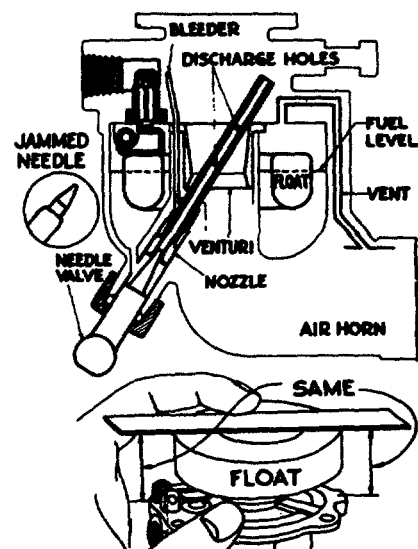

Figure 16.
To set the level on the carburetor, invert the upper body as shown. See Fig. 16. The float and the body cover should be parallel. If not, bend the tang on the float to obtain this position. The actual distance on the small carburetors is 5/16 of an inch between the float and the gasket. On the larger models it is 3/16 of an inch. It is seldom necessary to measure this distance. The float level is not as critical as on some carburetors. Remember, however, that there should be one gasket between the float valve seat and the carburetor. No gasket or two gaskets will change the float level.
Here is shown the position of the nozzle and the fuel level. See Fig. 16. The fuel in the bowl seeks its own level, which is well below the discharge holes. Notice that the discharge holes are in the venturi, the place of greatest air velocity. As the piston in the cylinder moves down with the intake valve open, it creates a low pressure area that extends down into the carburetor throat and venturi. Two things start to happen.
The ideal combustion mixture is about 14 or 15 pounds of air, in weight, to one (1) pound of gasoline. Remember that an engine operating under heavy load requires a richer mixture than under light load. In order to regulate the mixture, we place in the carburetor a threaded needle valve with a tapered point which projects into the end of the nozzle. See Fig. 16.
The inset of Fig. 16 shows what happens when the needle valve is turned too far. A square shoulder is produced on the taper. It is possible, of course, to adjust the carburetor with the needle valve in this condition, but it is quite difficult, because a small movement of the needle makes a big difference in the amount of fuel that can enter the nozzle. And, if you do get it adjusted, the vibration can soon throw it off.